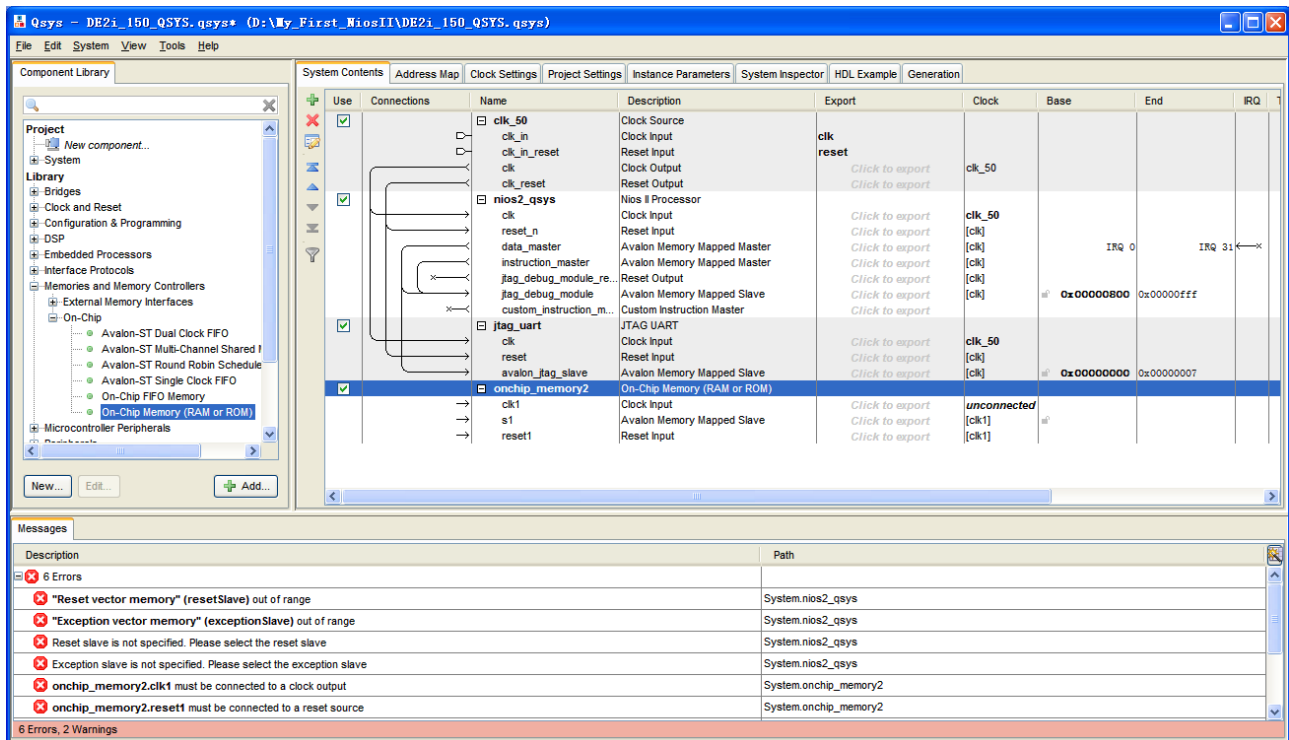

Figure 1-30 Rename On-Chip memory
18. Rename **onchip\_memory2\_0** to **onchip\_memory2** as shown in Figure 1-30.